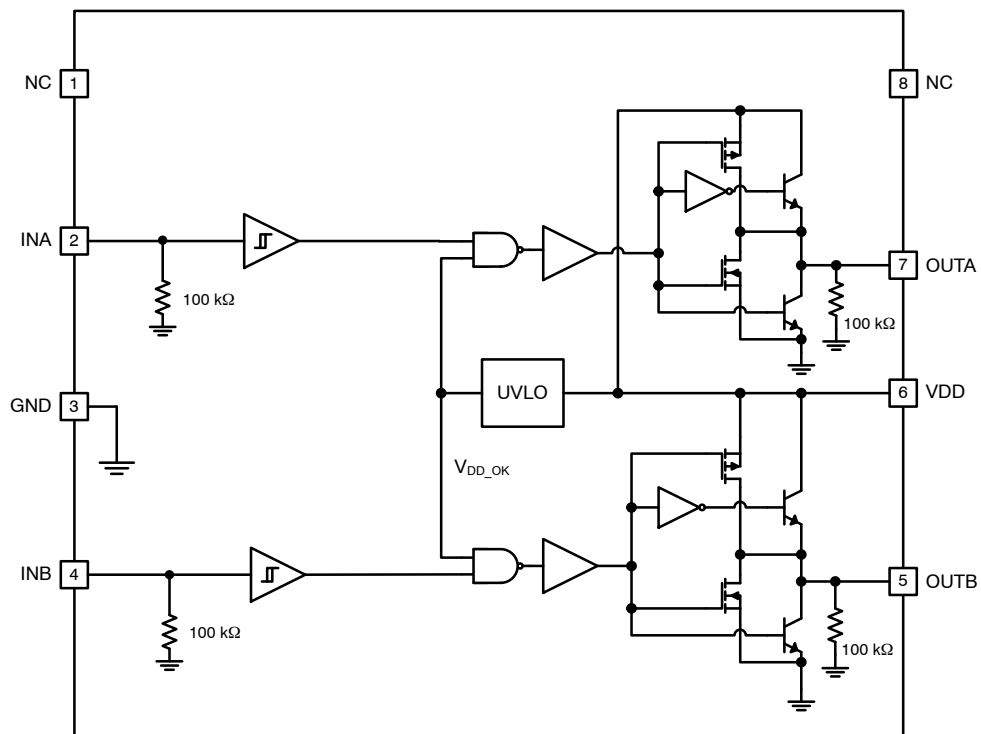

Figure 5. FAN3214 Block Diagram
10. For any inverting inputs pulled low, non-inverting inputs pulled high, or outputs driven high; static  $I_{DD}$  increases by the current flowing through the corresponding pull-up/down resistor shown in Figure 4 and Figure 5.